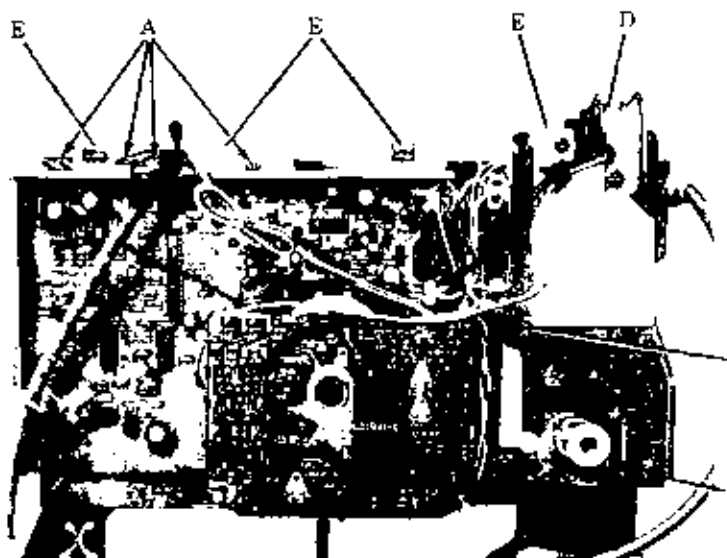

Figure 6-17 Color Deflection Board Removal
The color deflection board can be removed with the CRT assembly still fitted into the computer, to do so refer to Figure 6-17 and use the following procedure.
4. Remove the screw (C) from the lower right corner of the deflection board.
6. Remove the two screws (D) from the bracket that secures the deflection board to the frame.
7. Break the adhesive bond (A) between the end of the CRT tube and the small PCB. disconnect the small PCB from the end of the CRT tube.
8. Push the plastic clips (E), see figure 6-17 out of the frame, remove, and lift out the deflection board.
4. Break the adhesive bond (A) from the end of the CRT tube and the small PCB, disconnect the small PCB from the end of the CRT tube.
6. Disconnect connector B from Power Supply, see Figure 6-17.